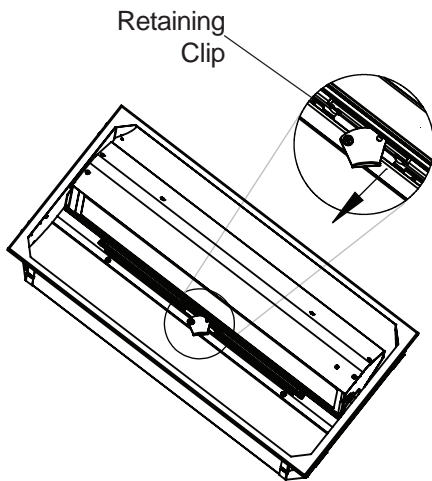

Figure 8
- Rotate the carriage to access the retaining clip (Figure 8).
- While grasping the carriage, pivot the retaining clip to release the carriage from the home position (Figure 8).